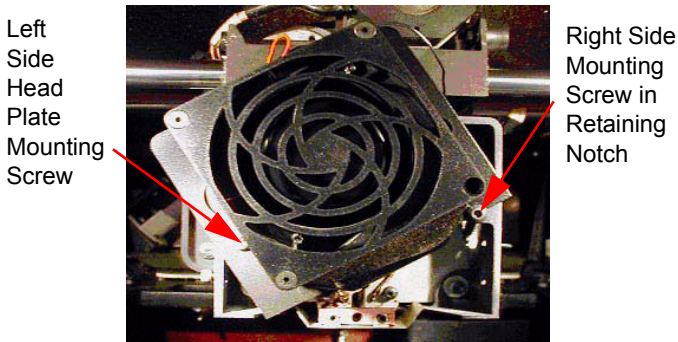

Figure 16: Head plate in shroud replacement position
2. Using a 1/8-inch hex wrench, back out the two head-plate mounting screws approximately 1/8 inch (see Figure 16). Do not remove the screws.
- Pivot the right side of the head plate upwards, and rest the right side of the plate on the right mounting screw, as shown in Figure 16. There is a small notch on the bottom of the plate for this purpose.